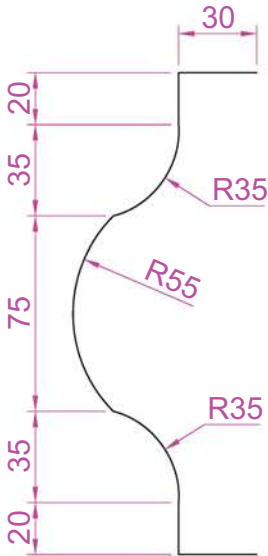

Fig. 6.7 First example – Mirror – outline
1. Construct the outline Fig. 6.7 using the **Line** and **Arc** tools.